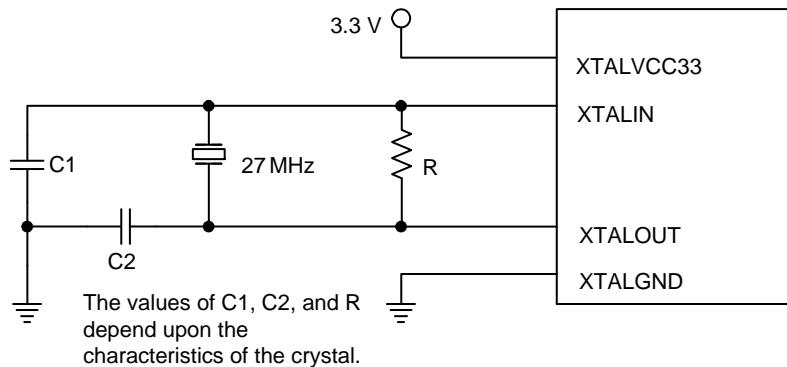
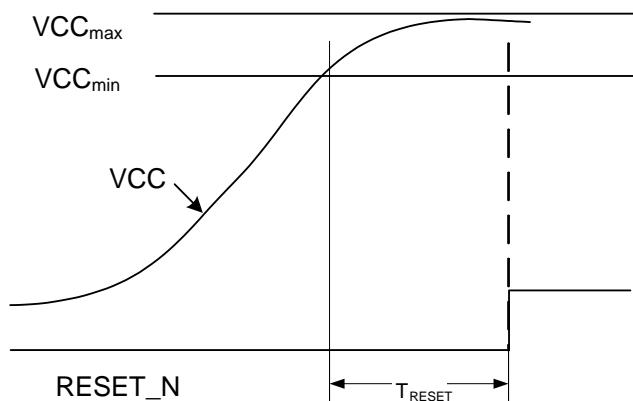
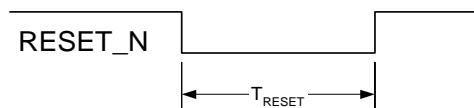

Figure 3.2. Audio Crystal Schematic
Figure 4.1. Conditions for Use of RESET_N
Figure 4.2. RESET_N Minimum Timing
1. Reset on RESET_N signal can be LOW as the supply becomes stable (shown in Figure 3.2 on the next page), or pulled LOW for at least T_{RESET} (shown in Figure 4.2 on page 20).
VCC must be stable between the limits shown in the Normal Operating Conditions section on page 13 for T_{RESET} , before RESET_N goes HIGH, as shown in Figure 4.1. Before accessing registers, RESET_N must be pulled LOW for T_{RESET} . This can be done by holding RESET_N LOW until T_{RESET} after stable power, or by pulling RESET_N LOW from a HIGH state for at least T_{RESET} , as shown in Figure 4.2.